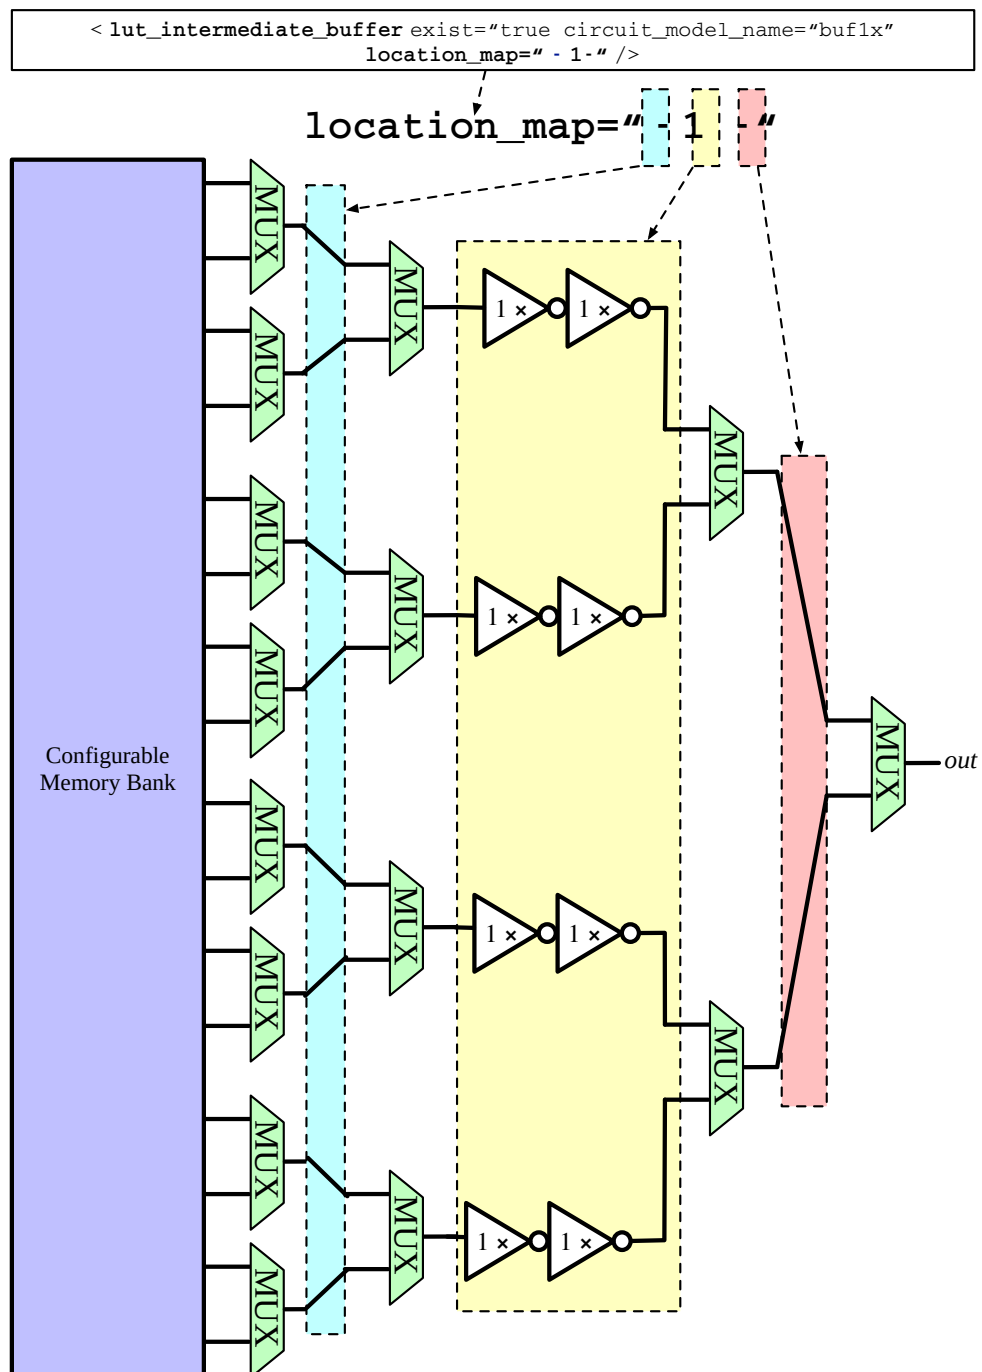

Fig. 7.29: An example of adding intermediate buffers to a 3-input Look-Up Table (LUT).
- `location_map="[1|-]"` Customize the location of buffers in intermediate stages. Users can define an integer array consisting of '1' and '-'. Take the example in Fig. 7.29, -1- indicates buffer insertion to the second stage of the LUT multiplexer tree, considering a 3-input LUT.